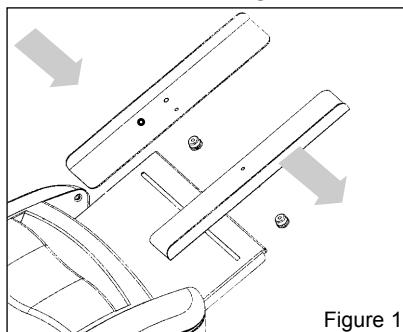

Figure 1
1. Insert the Paper Guides into the Paper Tray as shown in Figure 1. You will need to remove the black plastic nuts and clear spacers from the Guides. Once inserted, install the clear spacers on the Paper Guides and screw the nuts back onto the Paper Guides and tighten. The Paper Guides should now be attached to the machine as shown in Figure 2.